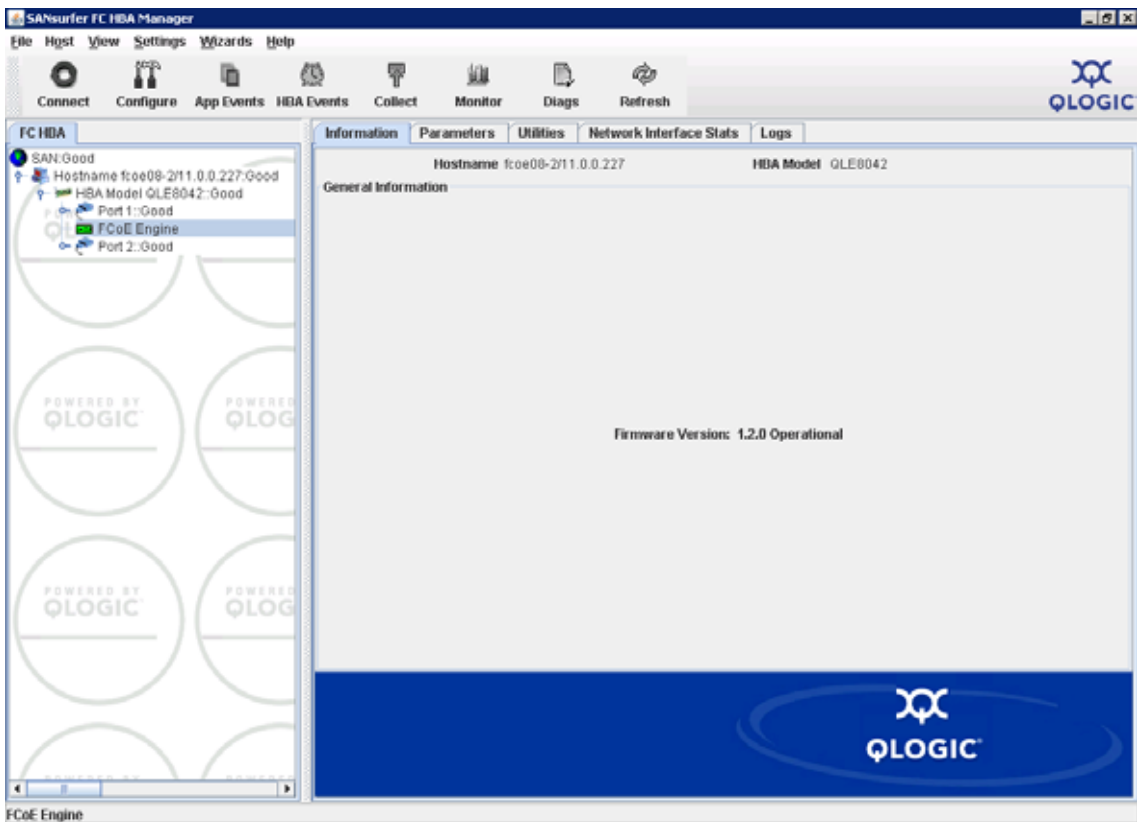

Figure 75 SANsurfer utility
1. Start the SANsurfer utility, as shown in Figure 75, and click **Open your CNA**.